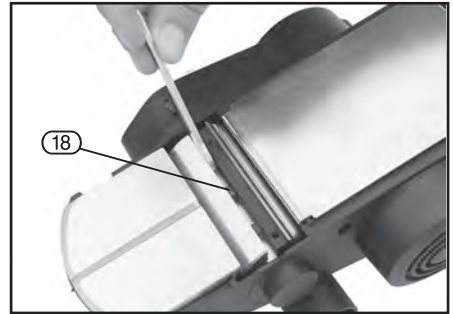

FIG.6
## 11.2 BLADE REPLACEMENT - FIGS. 6 - 8
- Loosen three fixing bolts (18) using the supplied spanner (Fig. 6).